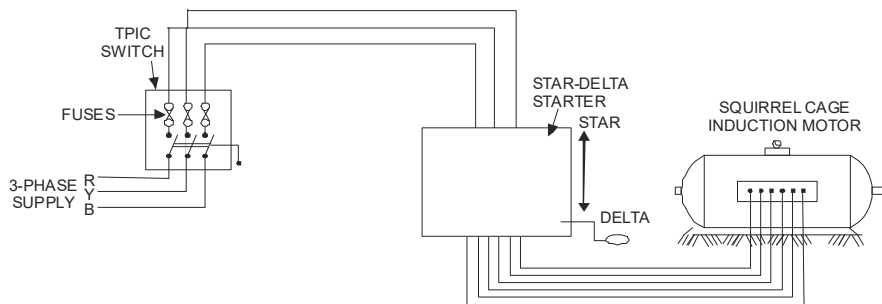

Fig.P7.5: Three-phase Induction Motor, rotation is reversed by interchanging terminals R and Y
6. To reverse the direction of rotation of the motor interchange the leads of motor at any two terminals of the *TPIC* switch as shown in fig. P7.5.